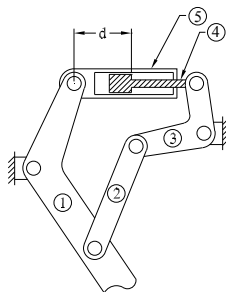

Figure 8.35:
6. The mechanism shown in figure 8.35 is for operating an aircraft landing gear. Express equations for determining the angular position of body 1 in terms of the lengths of the links and the distance  $d$ . Be sure to define whatever angles you need.